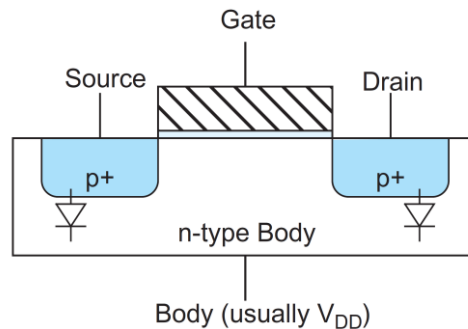

Figure 4: pMOS transistor
- ✓ The pMOS transistor in Figure 4 operates in just the opposite fashion. The n-type body is tied to high potential, junctions of p-type source and drains are normally reverse-biased.